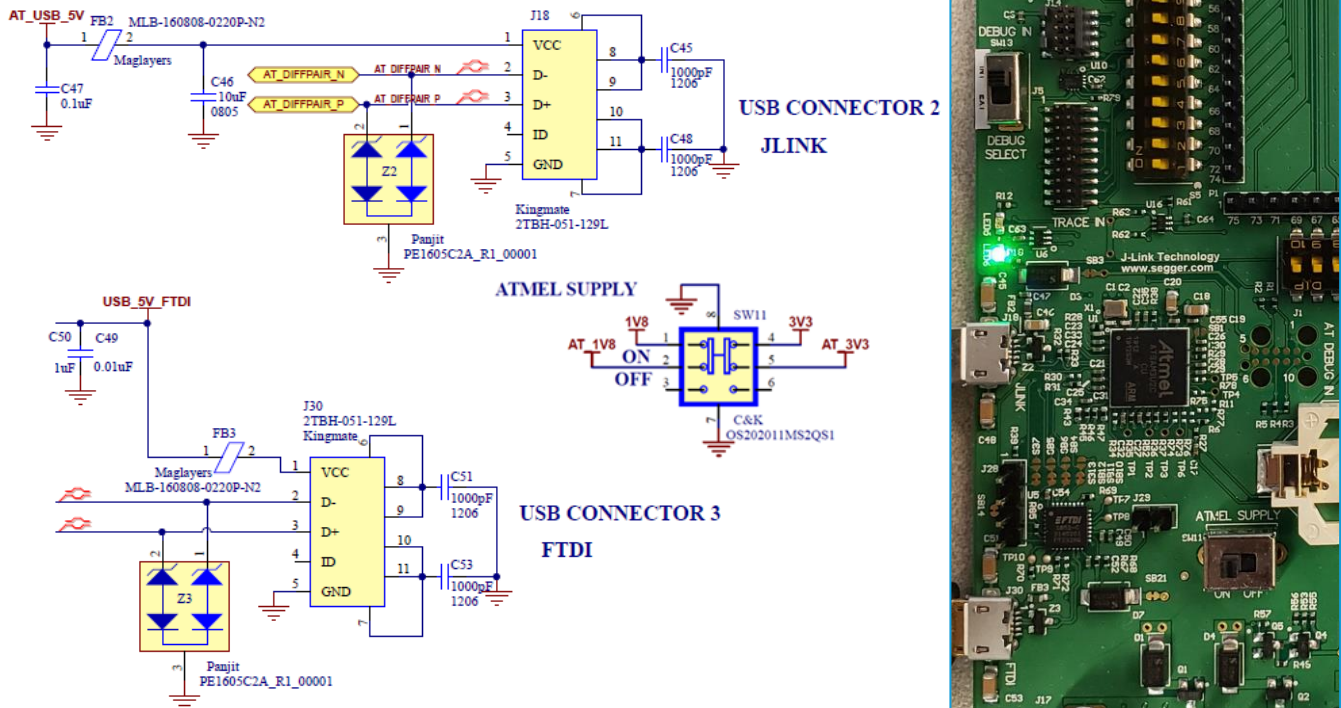

Figure 13: JLINK USB, FTDI USB, and ATMEL SUPPLY switch
- The internal SWD circuitry can also be connected to the modem. The **DEBUG SELECT** must be set to **INTERNAL**. The **ATMEL SUPPLY** switch, SW13, must be set to **ON**. USB cables must be plugged into J18 (JLINK) and J30 (FTDI), shown in Figure 13.